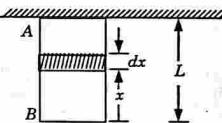

Fig. 1.15.1
1. Fig. 1.15.1 shows a bar AB fixed at end A and hanging freely under its own weight.